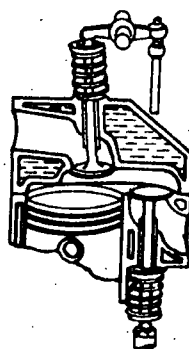

Fig. 4
- The camshaft, tappets and the exhaust valves are situated in the block and the rocker arms and intake valves on the cylinder head (fig. 4).